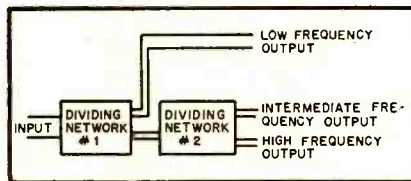

Fig. 11. Block diagram of three-way dividing network.
have been written on the design of filter type dividing networks. The element values for these networks also may be designed using the simple methods described. For example, a three-way network³ may be evolved by noting that it is composed of two separate dividing networks, as shown in Fig. 11. The reactances of the elements are determined by applying the theory of fractional or x termination⁴ whereby series elements Z_{cd} in the low-pass filter may be omitted because they are represented to a good approximation by portion Z_{CD} of the high-pass filter for frequencies in the stop band region of the high-pass filter. Similarly, the series elements Z_{ab} of the high-pass filter may be omitted since they are represented in the circuit by the portion Z_{AB} of the low-pass filter for frequencies in the stop band region of the low-pass filter, as illustrated in Fig. 12, (A) and (B). The element values and the complete circuit of the Douglas three-way network are reproduced at (C).